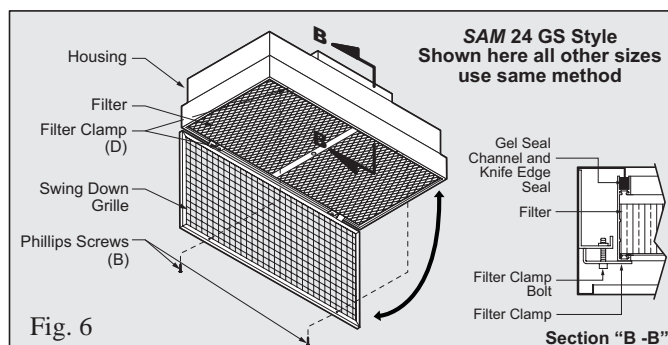
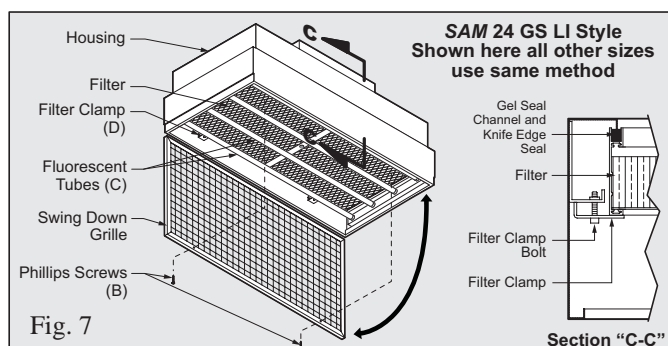

Fig. 6
Fig. 7
1. (Fig. 6 and Fig. 7) Using a standard phillips head screw driver, remove (2) Phillips screws (B) from the grille assembly, lower grille. Proceed to Step 3 for CRF or GS series units without lights.